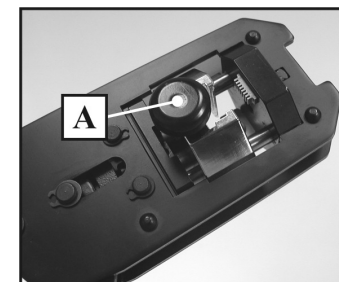

Fig.6.
- After the full crimping cycle is done, open the tool fully in order to remove crimped plug. Press the release button (A) (Fig.6.) at the back side of the tool and pull out the plug assembly. The tool is ready for next crimping cycle.